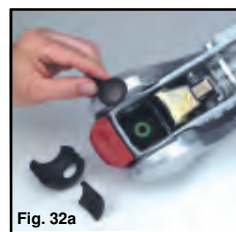
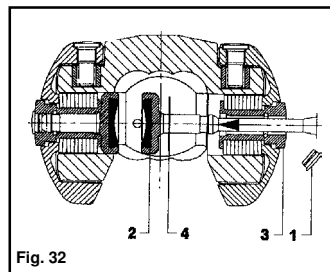

Fig. 32a
Fig. 32
- Remove protective caps (Fig. 32/Item 1) with the aid of a small screwdriver.
- Press worn out pad inwards and remove (use punch and hammer) (Fig. 32/2)
- Insert new friction pad from below (after first re-inserting shim washers if they were present) and press in as far as it will go (Fig. 32/Item 4 & Fig. 32a).